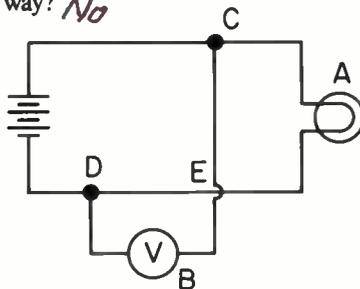

Fig. 3
1. The negative terminal of the battery in Fig. 3 is the *(upper)* (lower) terminal.
2. The symbol for the battery in Fig. 3 indicates that the battery has three cells. (True) *(False)*
3. What does the symbol at *A* in Fig. 3 represent? *Bulb*
4. What does the symbol at *B* in Fig. 3 represent? *voltmeter*
5. Would removing the dots at *C* and *D* in Fig. 3 change the circuit represented by the diagram in any way? *No*